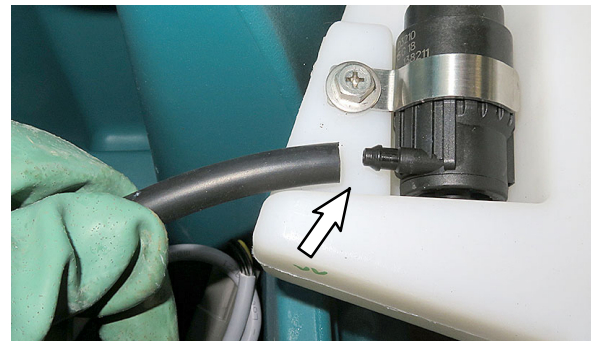

Fig. 8
10. Connect the delivery hose to the ABW pump (Figure 8). No hose clamp required.